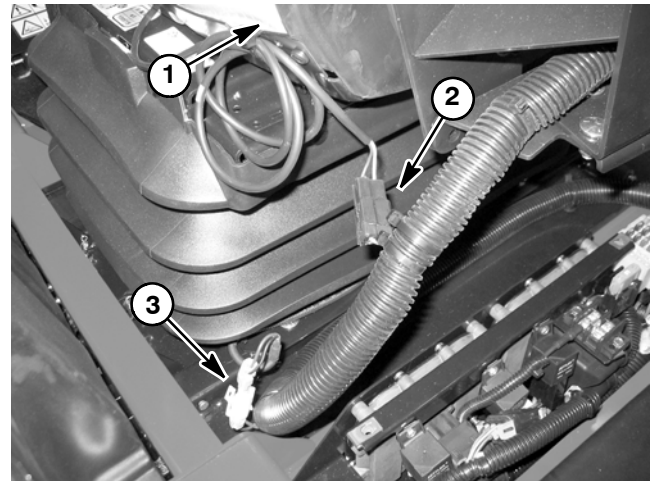

Figure 25
2. Disconnect seat electrical connector from machine wire harness (Fig. 25).
4. Remove flange nut (item 4) and carriage screw (item 1) that secure support bracket (item 3) to support channel (item 2).
5. Remove screw (item 8) that secures control arm support (item 7) to coupler nut (item 9).
6. Remove cap screw (item 5), flat washers (item 6), spacer (item 10) and seat belt latch (item 21) from seat and control arm support (item 7).
A. Secure support bracket (item 3) and support channel (item 2) with flange nut (item 4) and carriage screw (item 1).
B. Secure control arm support (item 7) to coupler nut (item 9) with screw (item 8).
C. Place flat washer (item 6), seat belt latch (item 21) and spacer (item 10) between seat and control arm support (item 7). Secure with cap screw (item 5) and second flat washer (item 6).
4. Connect seat electrical connector to machine wire harness (Fig. 25).